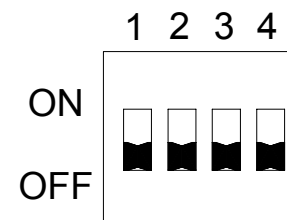

Fig5. CHANNEL SELECT DIP SW
4. Channel selection DIP SW (as shown in Fig5)